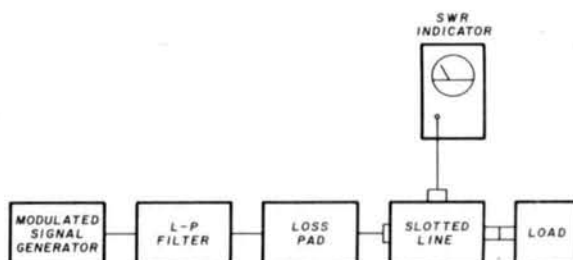

fig. 3. Equipment set-up for measuring swr, using an swr indicator for direct measurement readings.
The equipment set-up for using the slotted line is shown in fig. 3. The swr indicator was discussed in detail in reference 1. The signal generator must be amplitude modulated with a sine or square wave at the same frequency to which the swr indicator is tuned — usually 1000 Hz. Although an output of 1 milliwatt into 50 ohms is recommended for measurement of high standing-wave ratios, an output of 0.2 milliwatt (100 millivolts across 50 ohms) will generally suffice. The generator must supply a constant output which has minimum harmonic distortion and low incidental fm. The modulating voltage must also be stable to minimize measurement errors.
1. Connect the equipment as shown in fig. 3, except that the load is left unconnected; allow sufficient warm-up time for the signal generator to become stable.
If the attenuator method is employed in conjunction with a *modulated* signal generator and an swr indicator, the test set-up of fig. 3 is applicable, except that a precision variable attenuator is used in place of the loss pad. The measurement procedure is as follows: